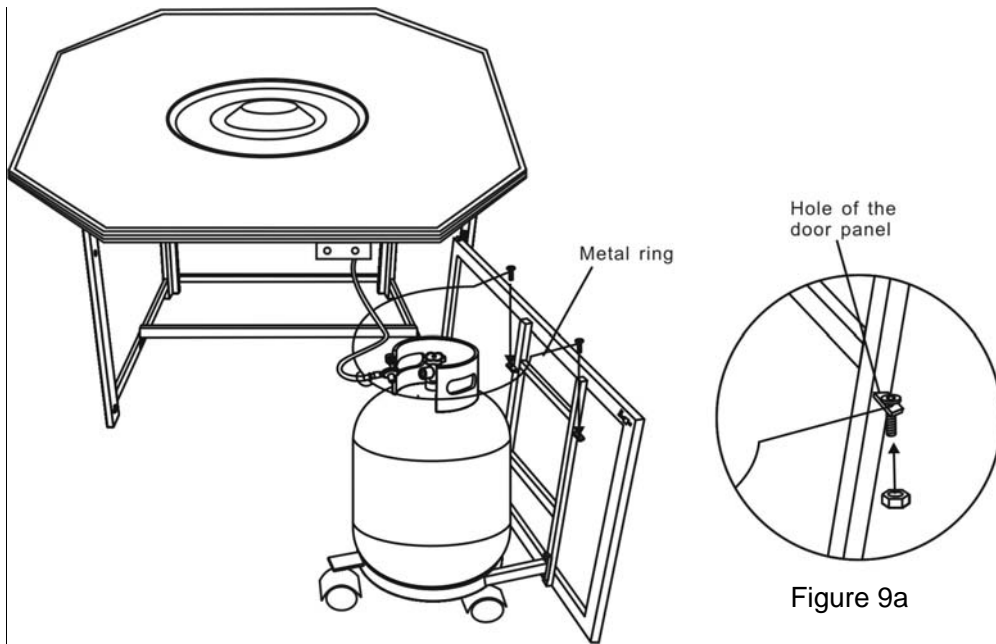
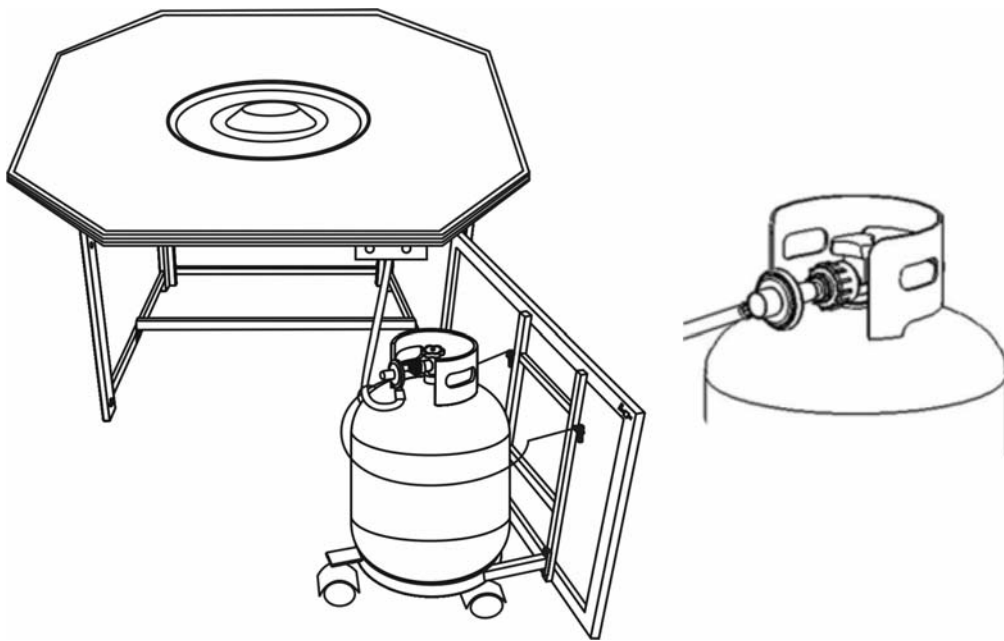

Figure 9
Figure 10
9. Attach the metal ring (as shown in Figure 9) pre-fitted with gas hose which is connected to the table top , into the hole on the door panel, then use hex bolt driver to tighten the 1/4"x5mm nut , the gas tank has fixed as shown in Figure 9a. Connect the regulator as shown in Figure.10. Turn the black handle clock-wise to tighten. Turn the handle counter clock-wise to remove. The hose must point down. Check that the valve is turned all the way clockwise to the "OFF" position.